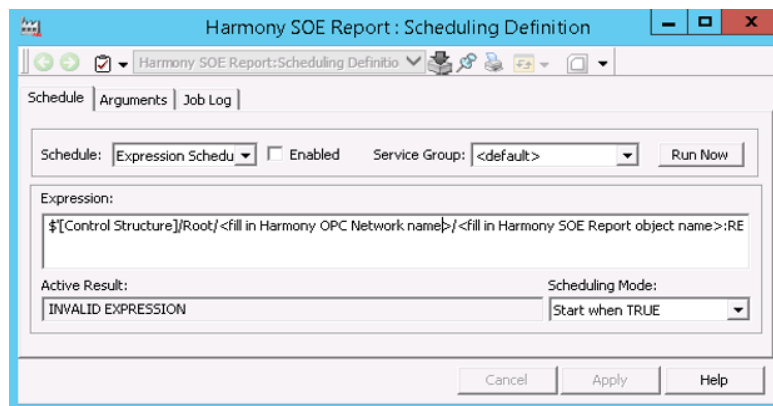

Figure 26. SOE Report: Scheduling Definition
4. Select **Start when TRUE** from the Scheduling Mode to initiate the report only when the expression evaluates to TRUE, Figure 26.